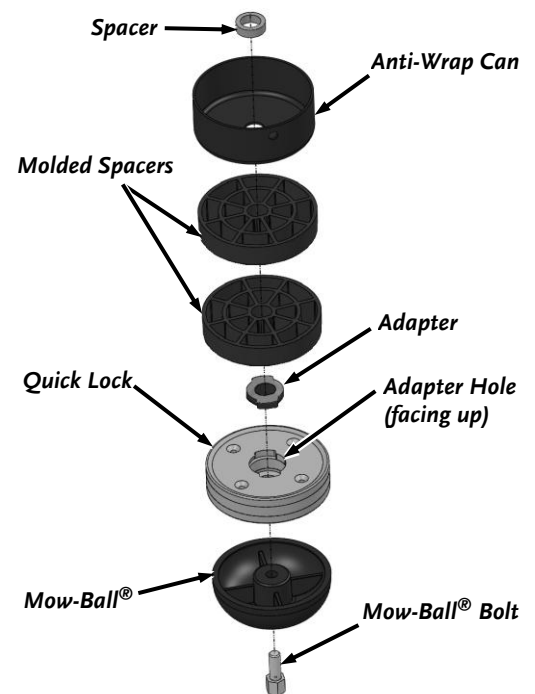

Figure 14
5. Slide the Quick-Lock, Spacers, Anti Wrap Canister, and Spacer off the Shaft (**Figure 14**).
Improper installation can cause damage to the trimmer bearings. Follow these directions carefully to protect your machine from damage. Reassemble the components in the order shown for lowest cutting height (**Figure 14**).
1. Place the Spacer and Anti Wrap Canister (with the lip facing up) onto the Shaft (**Figure 14**).